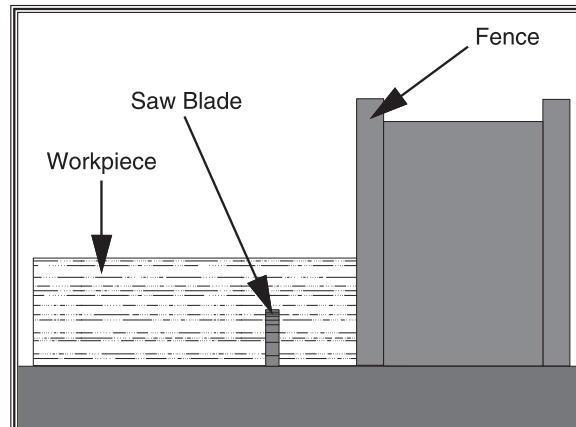

Figure 31. Rabbet cutting with a standard blade.
- Adjust the fence so the blade is aligned with the inside of your rabbet channel as shown in **Figure 31**.